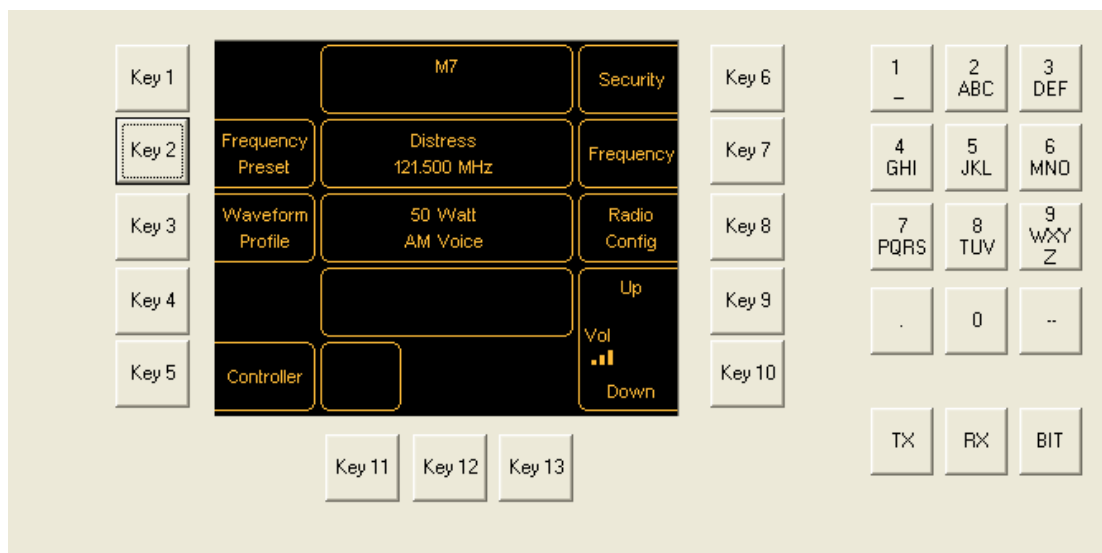

Fig 3-23 Home Screen Showing New Frequency and Waveform Profile
- (4) The radio is now ready to operate on the selected frequency and waveform profile as shown on the Home screen (Fig 3-23). In this example, the radio now operates in AM-Voice on the International VHF Distress frequency 121.500 MHz; the power output (M7X only) is 50 watt.